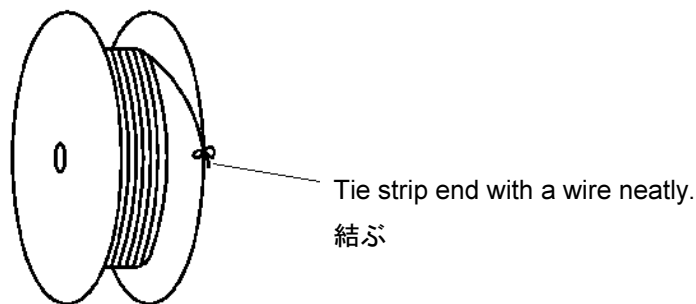

Fig.6
(4)When removing the contact reel from the machine, fasten the end of the contact strip onto the edge of the reel with use of proper string or wire. Fig 6.